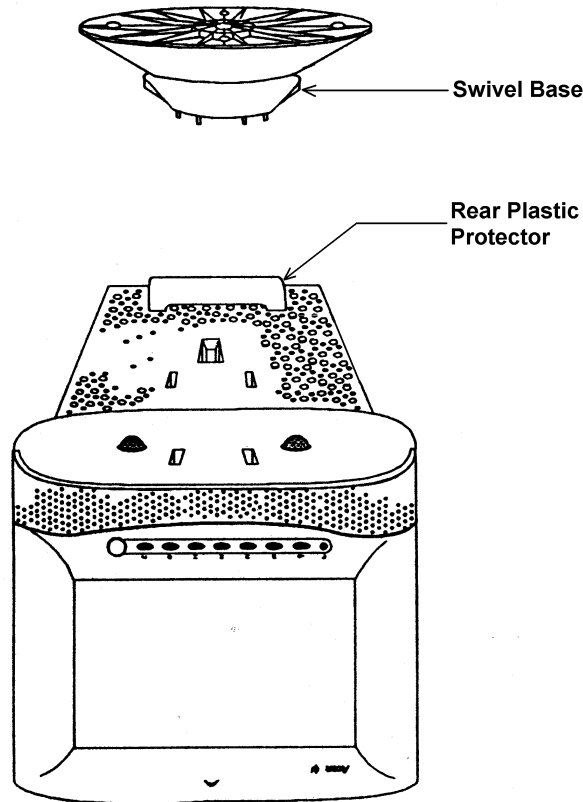

Figure 1, Monitor Bottom View
16. Remove the swivel base and the rear plastic protector from the ACER monitor and discard. Refer to figure 1, below. If you have a Sampo monitor, just remove the swivel base if attached.